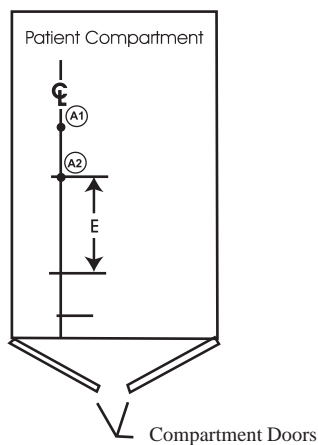

Figure 8 - Measurement E
1. Starting from Antler Point A2, measure along the Centerline toward the rear compartment doors and mark a point for Measurement **E**. (Figure 8).